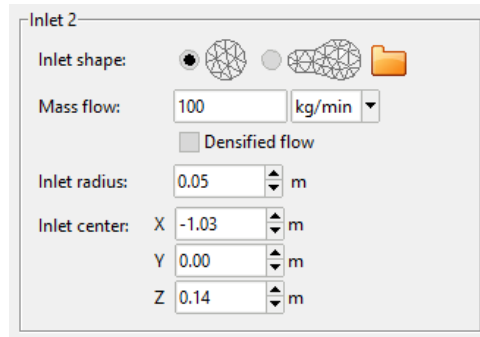

Figure 18. Definition of a circular inlet.
- **Circular inlet:** circular inlets are generated automatically, entering its radius and position (Figure 18).